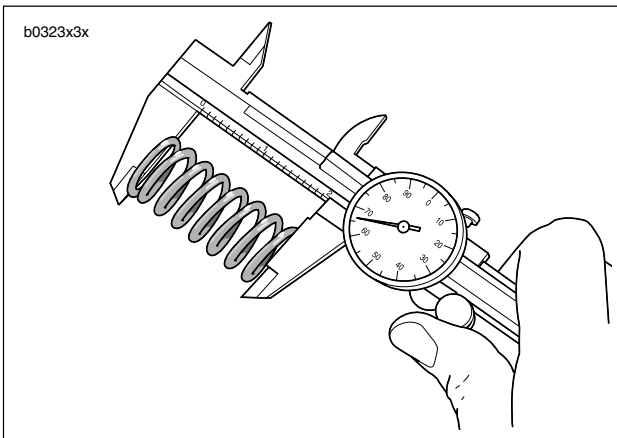

Figure 3-16. Checking Spring Free Length
17. See Figure 3-16. Check free length and compression force of each spring. Compare with SERVICE WEAR LIMITS. If spring length is shorter than specification or if spring compression force is below specification, replace spring.